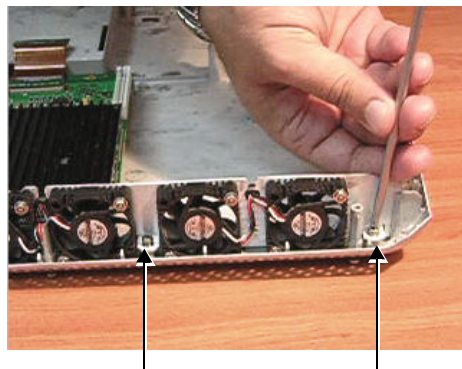

Figure 8-58 Removing the Screws from the Fan Assembly
- 3) Unscrew and remove the two screws that secure the Fan Assembly to the Bottom Assembly as shown in Figure 8-58 below.
- 3) Make sure the Fan Assembly is seated in the correct position. Return and fasten the two screws (previously removed) to secure the Fan Assembly to the Bottom Assembly, as shown in Figure 8-58 on page 8-49.